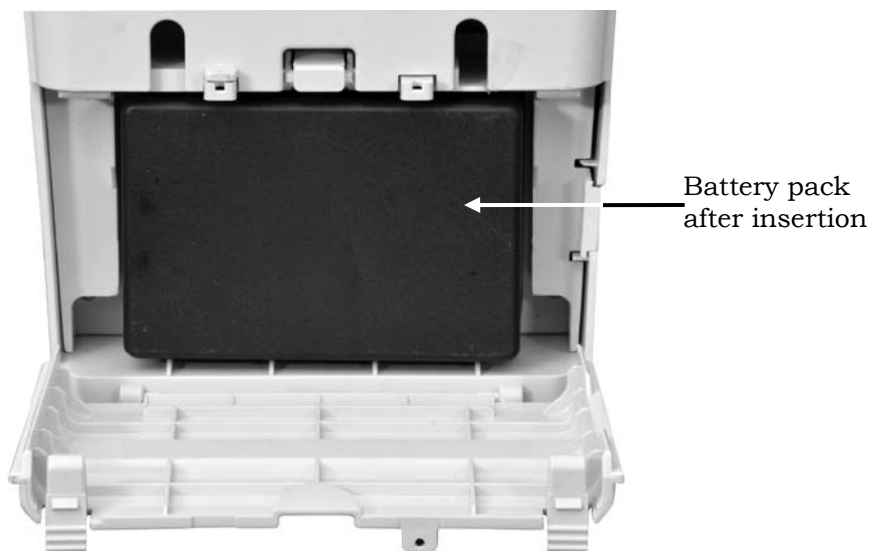

Figure 3.10 - Installed Battery Pack
- (e) Position the battery pack as shown in Figure 3.10 and close the door.